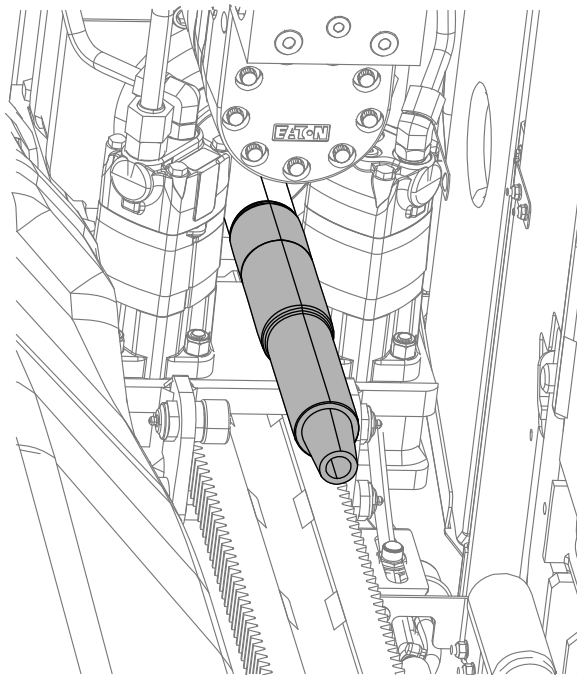

Figure 118
- B. Place a drain pan under the drill spindle for the leaked antifreeze (Figure 118).
- D. When the antifreeze comes out of the drill spindle (Figure 118), turn the pump off.